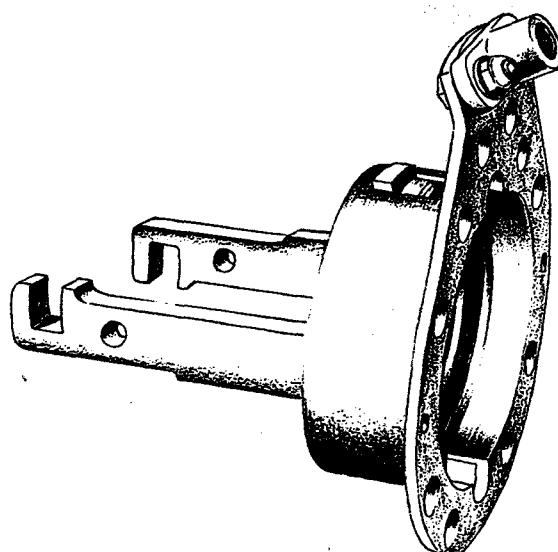

Figure 25
(1) Slip the actuator into the pitch-change mechanism sleeve until the lugs are against the front of the slots. (See figure 25.)